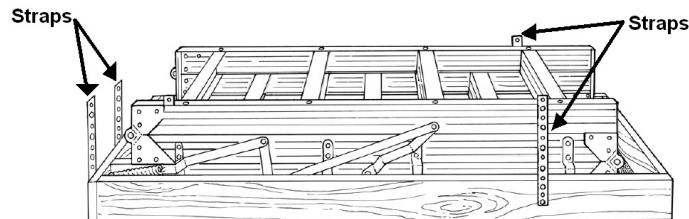
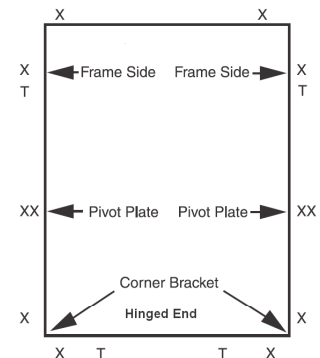

Figure 3
Figure 4
2. Install metal E-Z Hang straps to the folding attic ladder (See Figure 3 below) prior to lifting folding attic ladder into rough opening.
- C. Using the nails (clouts) and straps provided, attach straps using two of the nails (clouts) enclosed, on each strap in places marked on ladder and shown on Figure 3 (above), and Figure 4 (on Page 4), and items marked (T) nailed to the frame.
- Once the folding attic ladder is positioned as desired, final screwing should be done through the folding attic ladder frame (see Figure 4 below).
- Drill 6mm diameter holes in ladder frame to accept screws as shown in Figure 4 below.